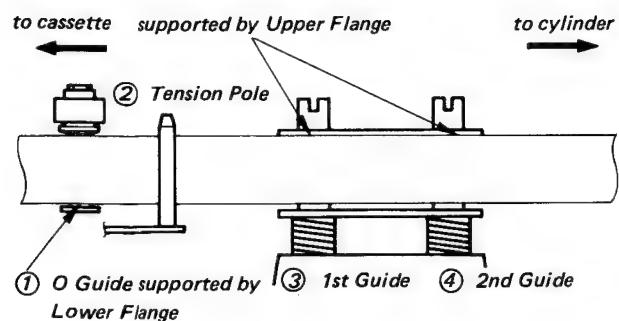
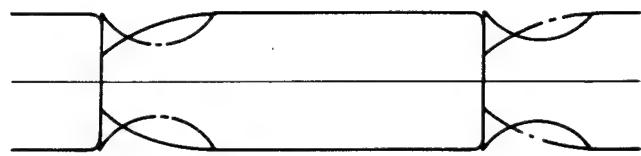

Fig. 5-115 Entrance Side Tape Path Adjustment
Fig. 5-122 Entrance Side Envelope Wave-form
(refer to Fig. 5-115)
**5-a. Entrance side adjustment (Fig. 5-115)**
C. Adjust the height of 1st ③ and 2nd ④ guides to maintain that the clearance between the guide upper plates and the tape upper portion is 0.5 mm approximately (see Fig. 5-115) and confirm that there is no cross portion in the envelope (see Fig. 5-122).